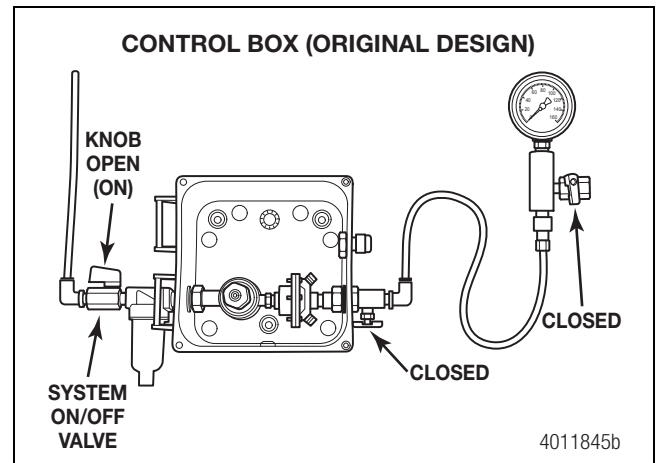
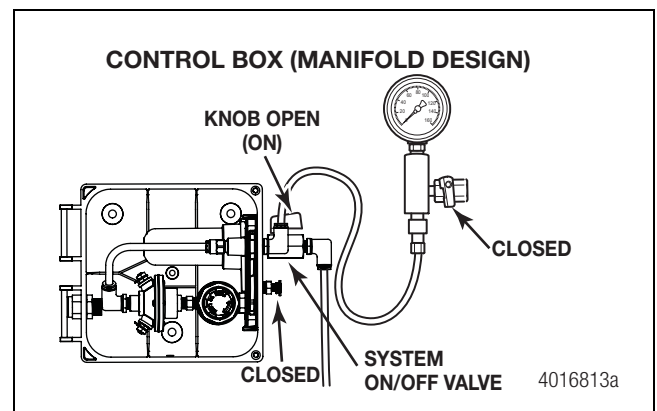

Figure 3.15
Figure 3.16
- Turn the supply line ball valve to the ON position. This allows air to charge the control box system. Figure 3.15 and Figure 3.16.